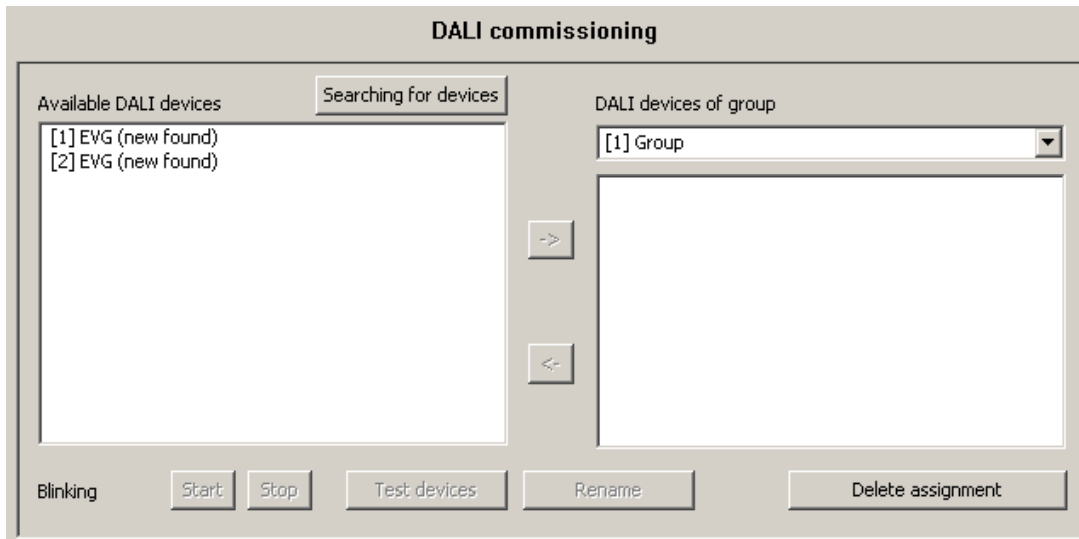

Figure 38: Assigning a name to identified devices
A dialogue box will open for renaming the device. Names cannot have more than 28 characters. The name may include alphanumerical as well as special characters. It is recommended to assign a unique name to each device (e.g. “Light 1 Window South”, “Light 2 Window South”, Light 1 Office Middle” etc. / cf. figure 38 on the following page).
- i** The short addresses of the identified devices are assigned randomly. Several test functions available in the plug-in can be used to detect during the name assignment which device is actually identified in the list entry. The “Start”, “Stop”, and “Test devices” buttons running the test functions are found in the lower margin of the commissioning environment (cf. figure 38). The devices to be tested have to be selected in the left partition first.